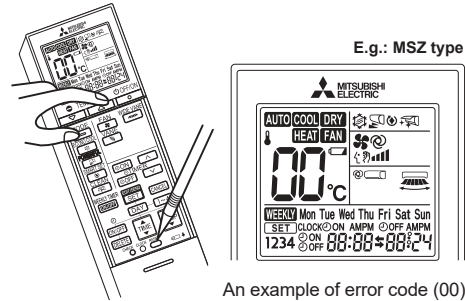

Figure 1
- ① While pressing both Operation select button and TEMP  $\oplus$  button on the remote controller at the same time, press RESET button.
- ② First, release RESET button. Hold down the other 2 buttons for another 3 seconds. Make sure that the indicators on the LCD screen shown in the right figure are all displayed. **(Figure 1)** Then release the buttons.